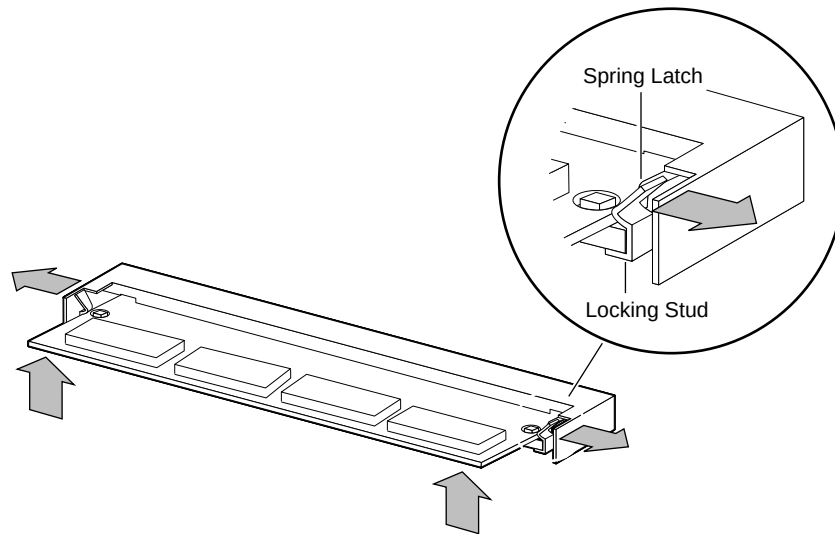

Figure 2-2. Ejecting the Installed SIMM
2. **Carefully press outward on the two spring latches until the SIMM ejects from the locking studs** (Figure 2-2).